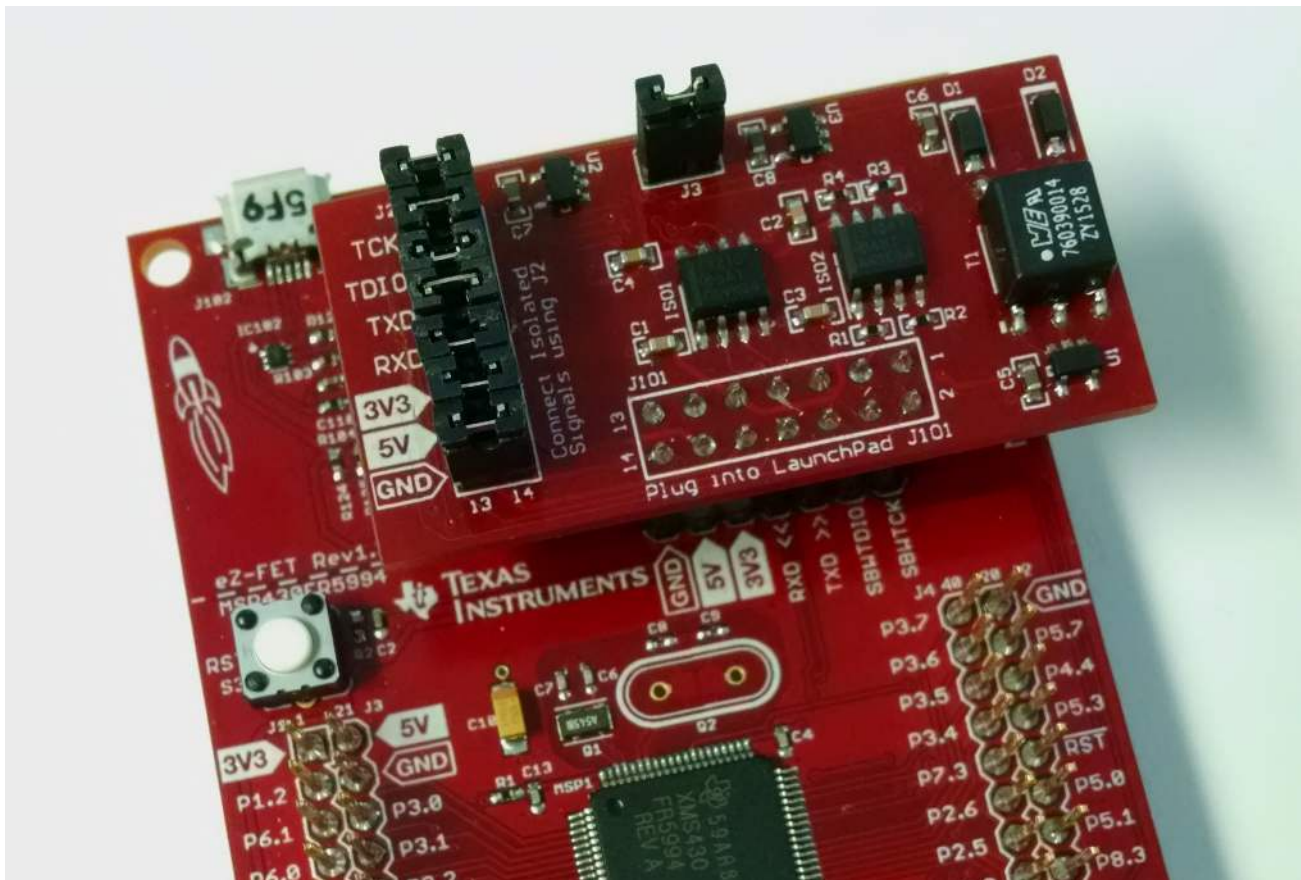

Figure 10. MSP-ISO Connection
3. Then plug the J101 header of the MSP-ISO into the J101 header of the LaunchPad development kit (see Figure 10).